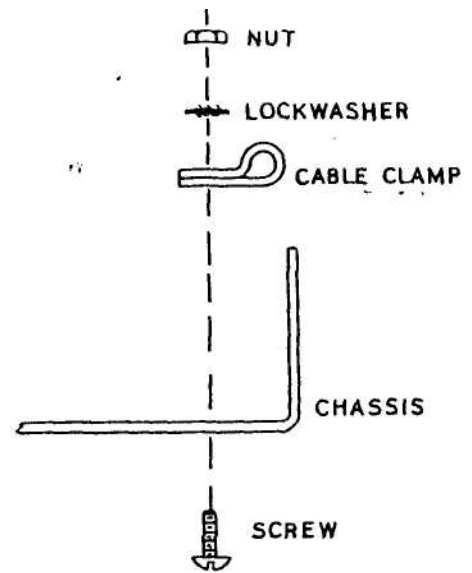

Figure 8
- () Mount a cable clamp at M, using 6-32 hardware. See Figure 8.